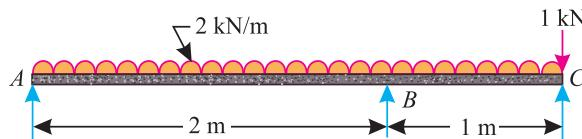

Fig. 16.11.
**Example 16.5.** An overhanging beam  $ABC$  of span 3 m is loaded as shown in Fig. 16.11.